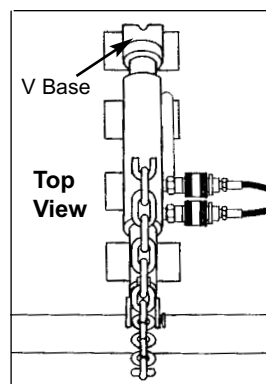
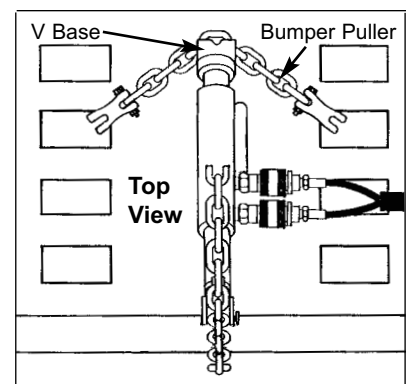

Figure 9
Figure 10
1. Position v-base of auxiliary ram assembly against tie down hole (see Figure 9) or brace it against bumper puller chain that links adjacent rows of tie down holes (see Figure 10). Bumper puller must be positioned on top of mainframe with its claw hooks engaging two tie down holes.